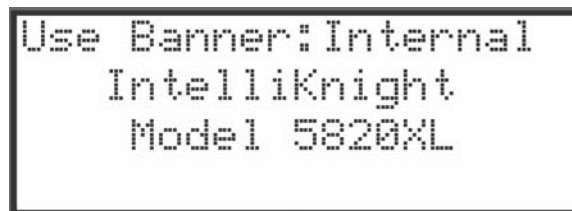

Figure 7-19 Internal Banner Message
4. Select 8 for Edit Banner. A screen similar to the one shown in Figure 7-19 will display.